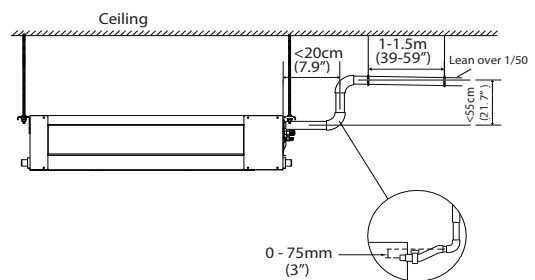

Fig. 17 – Condensate piping with a pump
- The highest point in the condensate piping should be as close to the unit as possible (see Fig. 17).